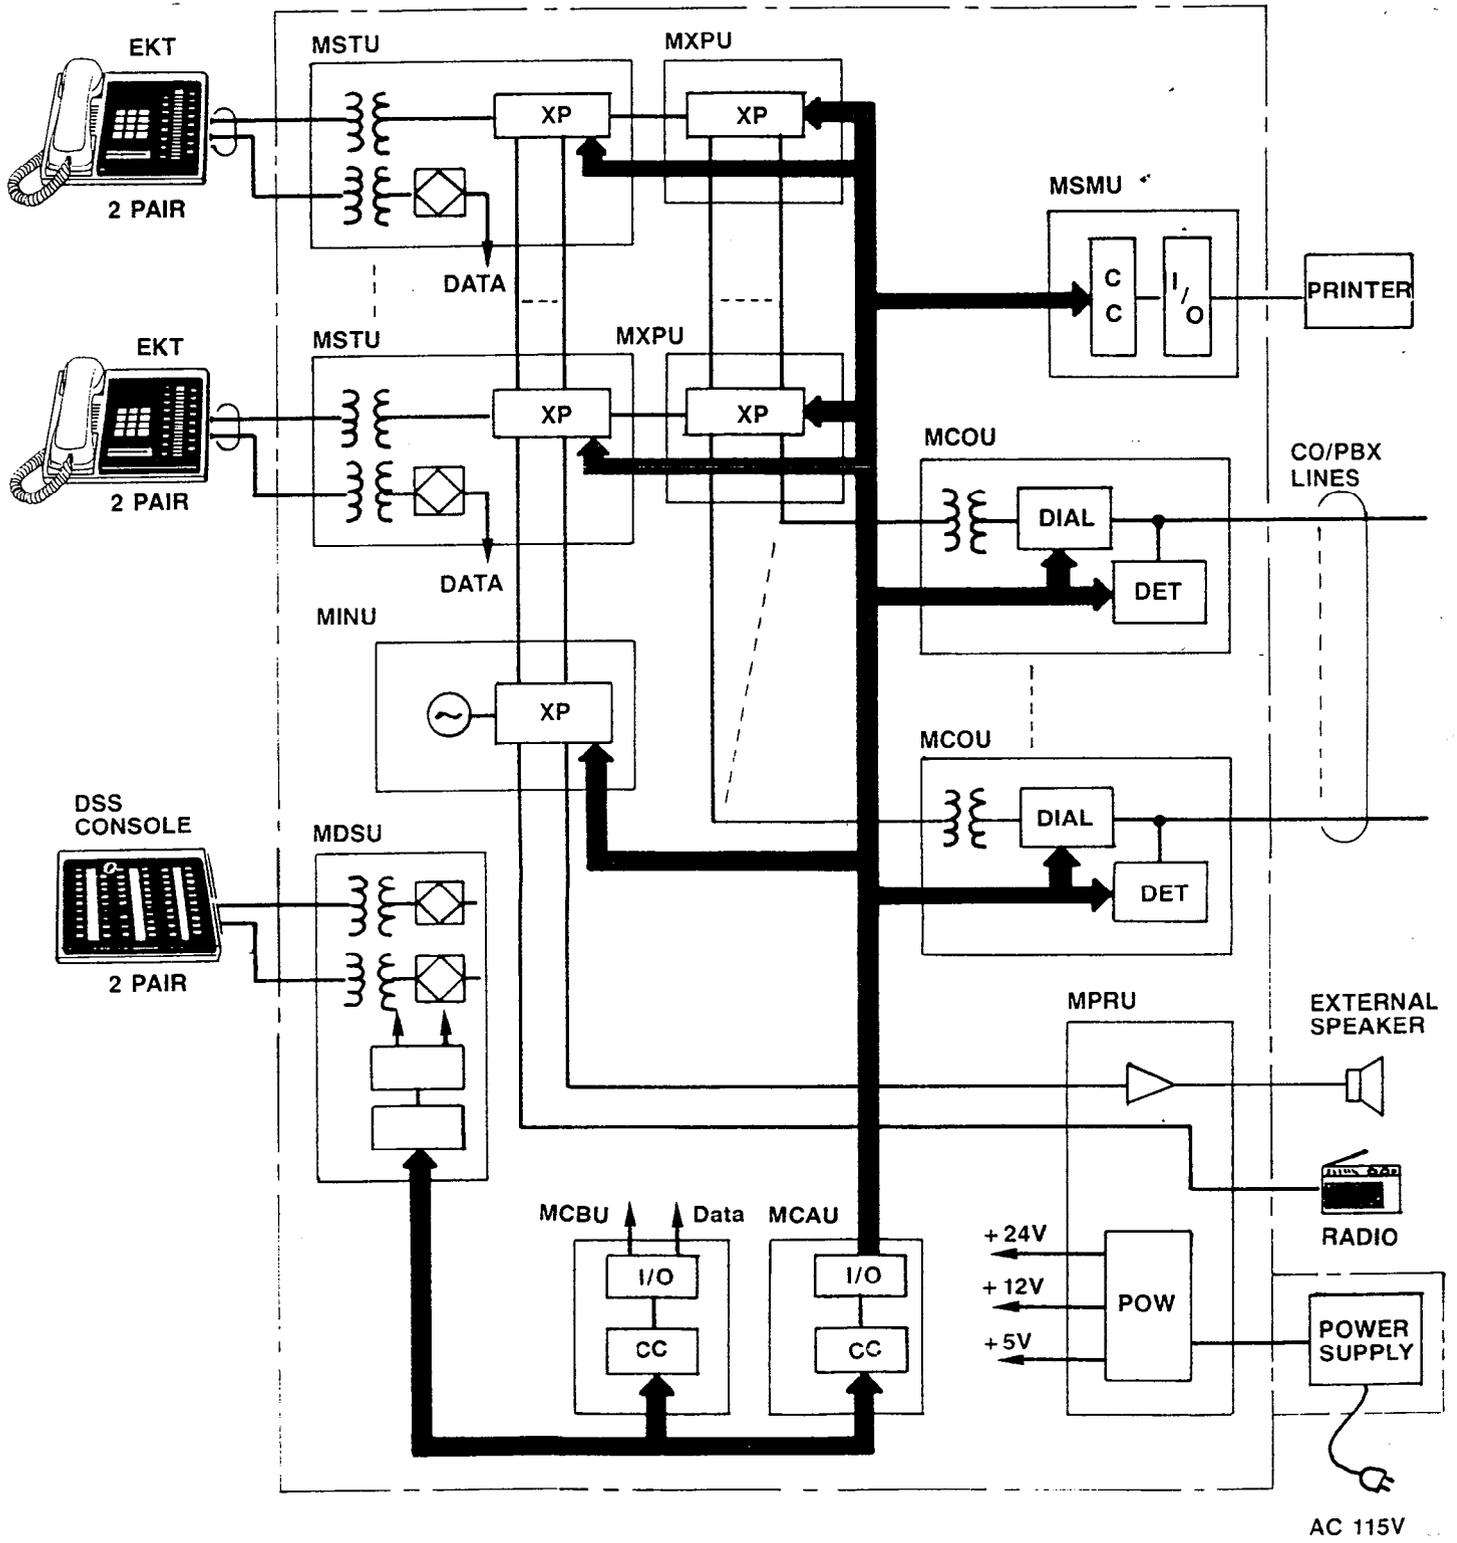

FIGURE 9—STRATA XII FUNCTIONAL BLOCK DIAGRAM
05.02 Functional block diagrams of the systems are shown in Figures 9 (STRATA XII) and 10 (STRATA XX). The systems, which are nearly identical, consist of: station interfaces (MSTU), which include a portion of the solid-state switching matrix; the MXPU PCBs, containing the remainder of the switching matrix; the CO line interfaces (MCOU); the intercom circuits (MINU); DSS interface (MDSU); power, paging and MOH interface (MPRU); the central control consisting of the MCAU/AMMU (the AMMU PCB mounts directly on the MCAU and is required in all systems) and MCBU (STRATA XX uses two MCBUs, STRATA XII, only one); off-premise extension (OPX) interface (MOPU); and the SMDR interface (MSMU).